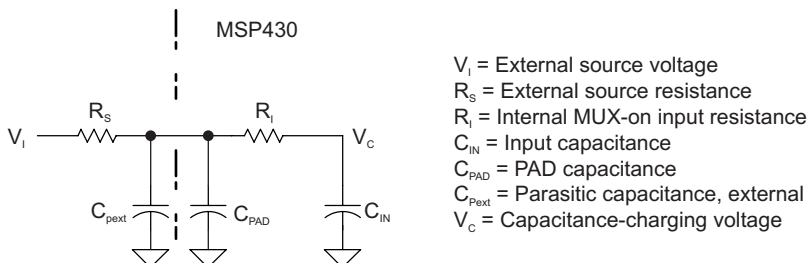

Figure 5-14. eCOMP Input Circuit
(1) For the eCOMP C_{IN} model, see Figure 5-14.
(2) This is measured over the input offset.